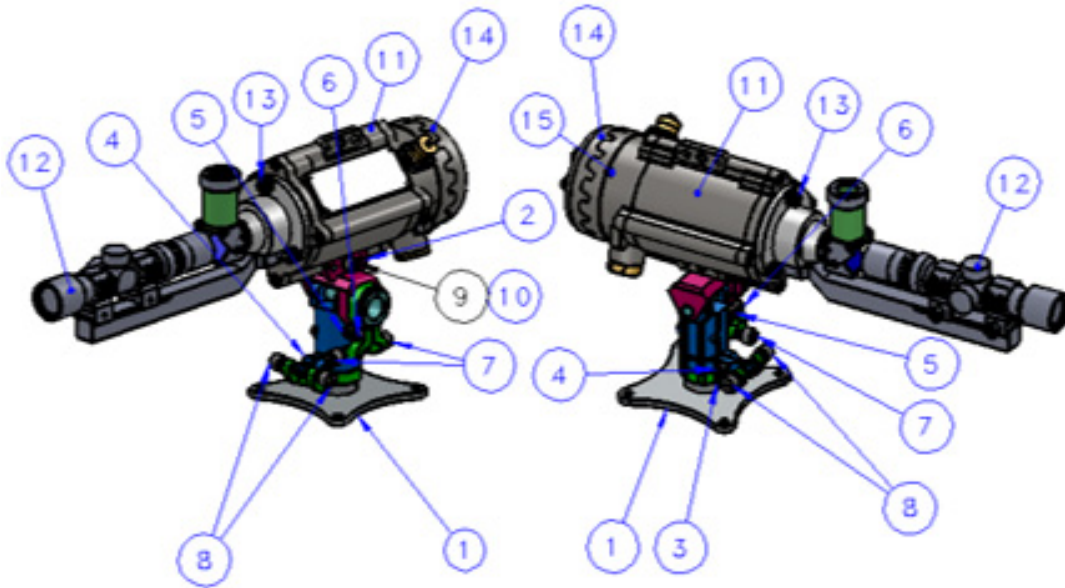

Figure 7-1: Detector/Source and Tilt Mount Assembly
To align the unit (see Figure 7-1: Detector/Source and Tilt Mount Assembly):
4. Perform the crude alignment as follows (refer to Figure 7-1):
- B. Loosen the vertical fine alignment tightening screw (5) and the vertical crude alignment tightening screw (6).
- D. Tighten the vertical crude alignment tightening screw (6).
- E. Loosen the horizontal fine alignment tightening screw (4) and the horizontal crude alignment tightening screw (3).
- G. Tighten the horizontal crude alignment tightening screw (3).
6. Perform the fine alignment as follows (refer to Figure 7-1):
- A. Aim the source to the detector within horizontal axis using the vertical fine adjustment screws (8).
- B. Make sure the telescope cross is pointing to the detector or source center of the front window (item 8).
- C. Tighten vertical fine alignment tightening screw (5).
- D. Aim within the vertical axis using the vertical fine adjustment screw (7).
- E. Tighten the horizontal fine alignment tightening screw (4).
- F. Make sure the telescope cross is pointing to the detector and source center of the window (8).